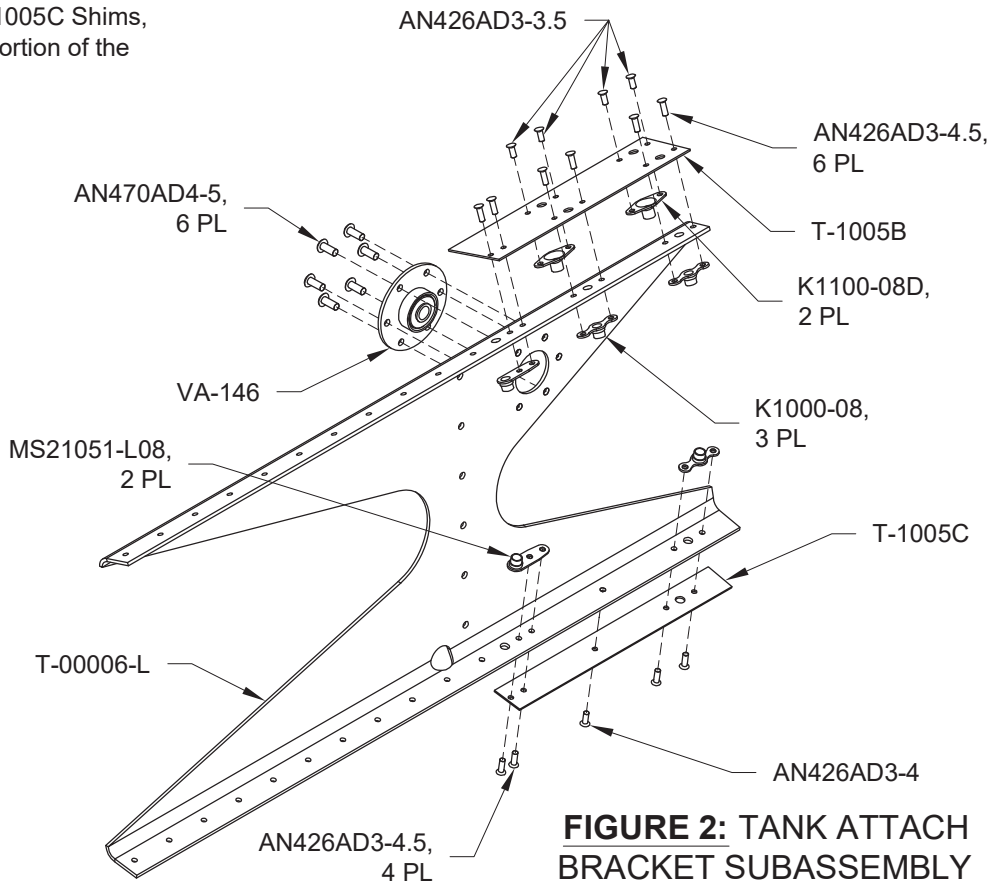

FIGURE 2: TANK ATTACH BRACKET SUBASSEMBLY
Step 3: Dimple the two #19 holes in the T-1005B Shim which will have the K1100-08D Nutplates attached. See Figure 2.
Step 4: Final-Drill #19 all .161 [4.1 mm] diameter holes in the T-00006-L & -R Tank Attach Brackets. Deburr the #19 holes. See Figure 2.
Step 5: Final-Drill #30 and attach the VA-146 Flange Bearing, K1000-08, nutplates, T-1005B & T-1005C Shims to the T-00006-L Tank Attach Bracket as shown in Figure 2.